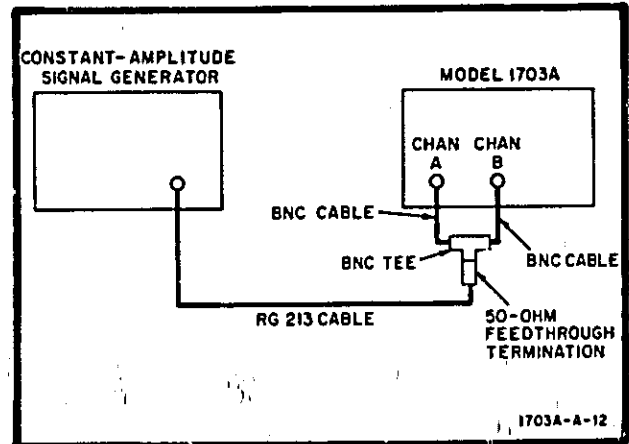

Figure 5-6. Common Mode Rejection Ratio Test Setup.
- a. Connect instruments as shown in figure 5-6.